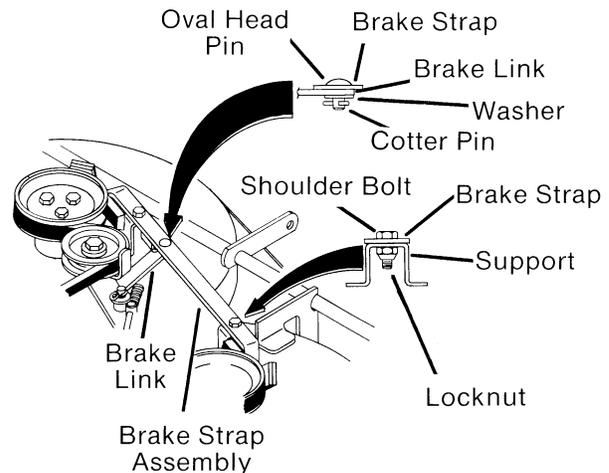

FIG. 17 LTA1013
- D. Remove shoulder bolt and locknut from both ends of brake strap assembly. (Fig. 17)
- E. Remove cotter pin from oval head pin. See (Fig. 17) Remove oval head pin.
- F. Remove brake strap assembly and install new one as shown. (Fig. 17)